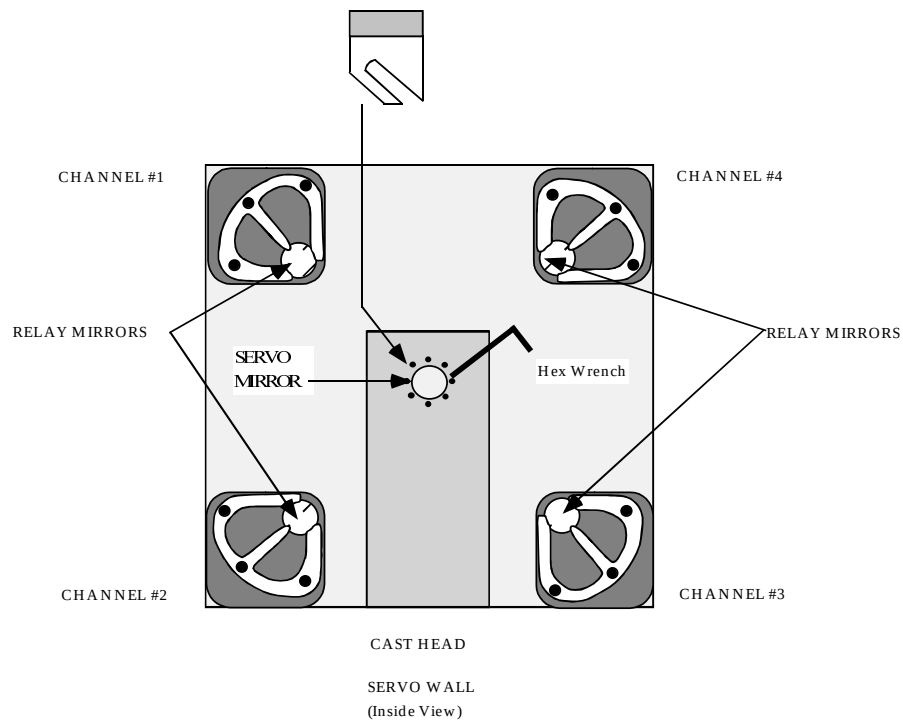

FIG. 3.6: SERVO MIRROR INSTALLATION
a. Using the servo alignment tool (P / N 0622-782-51), install the servo mirror on the motor shaft. Be sure the mirror mount is pushed all the way onto the shaft. Refer to Fig. 3.6.